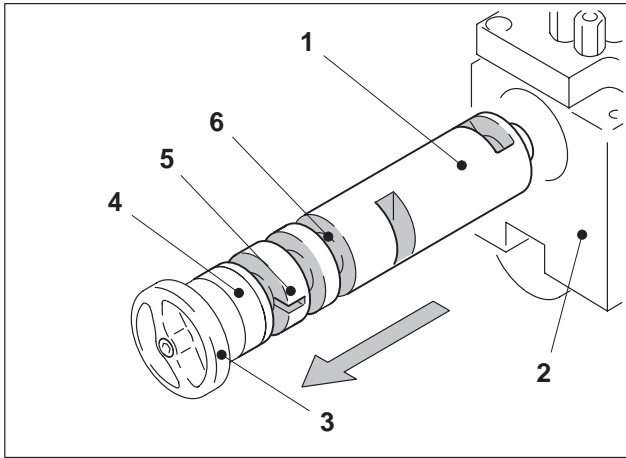
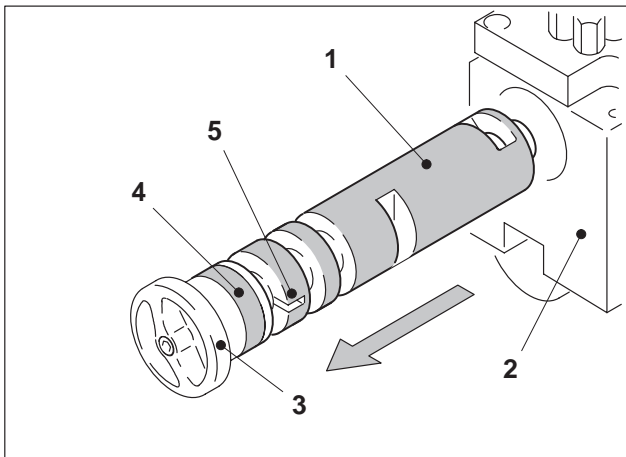

Fig. 6 Rotary valve, valve ports
Fig. 7 Rotary valve, surface
1. Press the cover plate (Fig. 6/3) slightly towards the inside and remove it by turning it anti-clockwise.
2. Pull out the rotary valve (Fig. 6/1), together with the cover plate (Fig. 6/3).
3. Clean the valve ports (Fig. 6), the surface (Fig. 7), and the bearing (Fig. 6/4) of the rotary valve.
4. For installation, set the mark (Fig. 6/5) of the rotary valve to the 3-o'clock-position and push the rotary valve into the suction head housing (Fig. 6/2). Turn the cover plate clockwise to lock it.